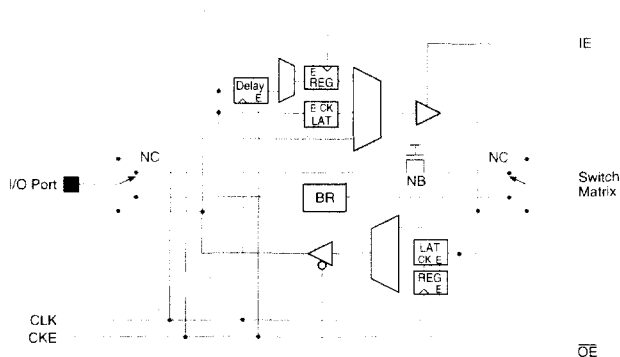

Figure 4: Programmable I/O Port
Each signal line in the Switch Matrix is connected to a programmable I/O Port. The functional attributes of individual I/O Ports can be programmed independently. The I/O Port attributes include its signal direction (in, out or bidirectional), data flow mode (flow-through, registered or latched), and pull-up current. Figure 4 shows the structure of the programmable I/O Port. The sources for the four control signals: clock (CLK), clock enable (CKE), input enable (IE), and output enable (OE) are also programmable and are described later in the section on I/O Control Signals.